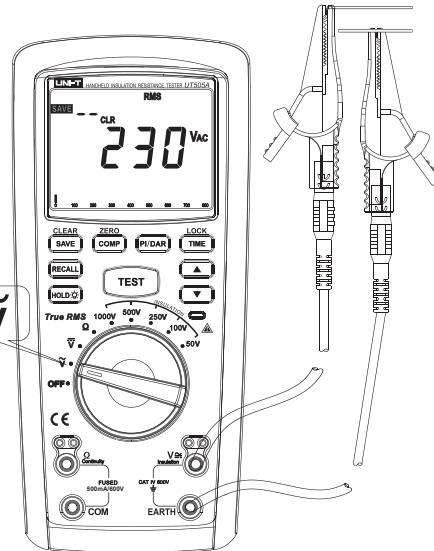

Figure 4
1. Measurement of AC voltage (See Figure 4)
- ① Insert red test pen in “ ~V ” jack (red hole) and black test pen in “EARTH” jack (black hole).
- ② Push the rotating switch to the gear “ ~V ” and connect test pen in parallel with the power source or to both ends of the load to be measured.
- ③ Directly read the measured voltage value from display.
- ④ To save the measured voltage value during measurement, just push the button “SAVE”.